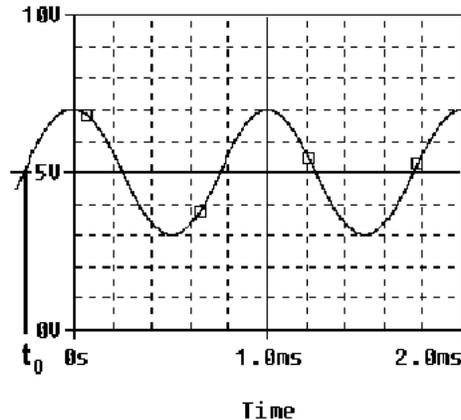

Figure A-3.
*Adding a DC offset:* If we add a DC offset voltage to the sine wave signal, as shown in Figure A-3, it moves the wave such that it is centered around the DC offset. The equation becomes  $v(t) = A \sin(2\pi ft) + V_{DC}$ . In electronics, the AC and DC parts of a signal can be treated as two mutually exclusive entities.